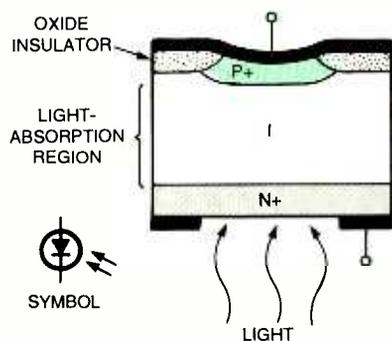

Fig. 1. Here is the buildup of a PIN photodiode.
In the fabrication process, a thick intrinsic layer (I) is inserted between the P- and N-type layers, as shown in Fig. 1. The middle layer may be either completely intrinsic, or very lightly doped to make it an N-layer. In some instances it may be grown as an epitaxial layer onto the substrate, or alternatively it may be contained within the substrate itself.